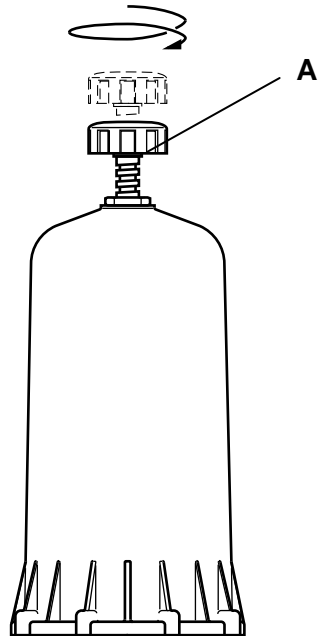

Fig. 14
- Screw the by-pass knob halfway down (**Fig. 14 - A**).